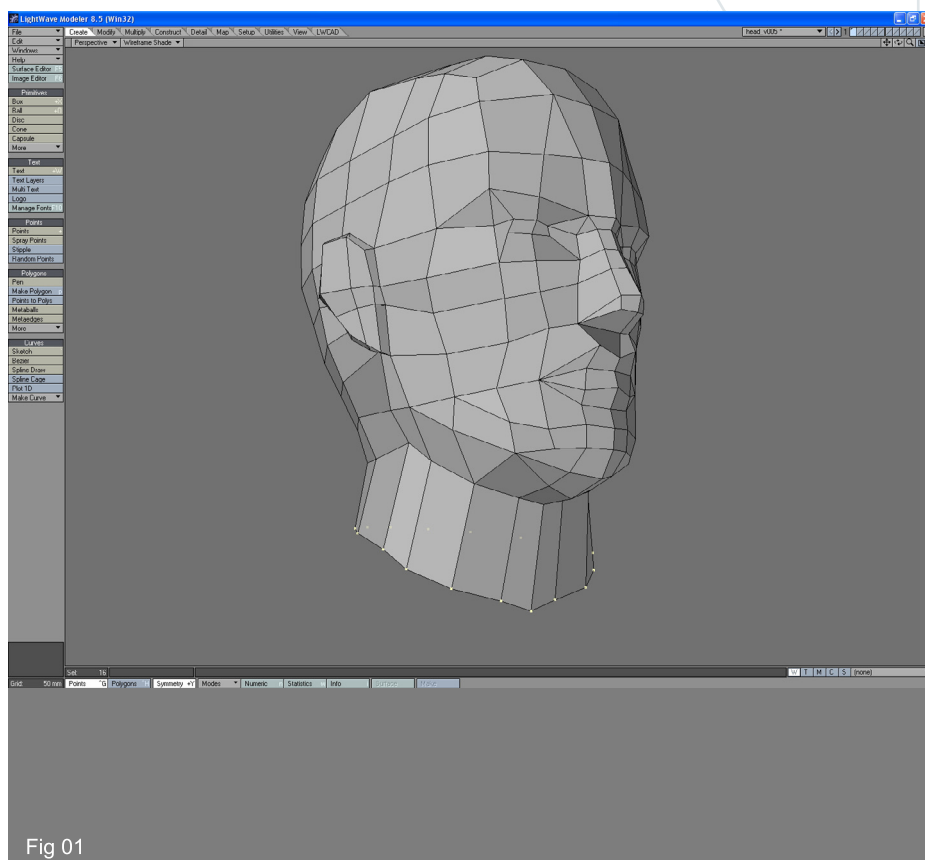

Fig 01
1. Start by, selecting the lowest points of the head model and use the Extender plus tool (just hit 'e') to extend once. Use the Move tool ('t') to move the new points downward along the Y axis. Holding Ctrl key while you move, will lock the movement to one axis, so the points wont move on X or Z axis. Using the Drag tool (Ctrl+t) and Symmetry mode on (Shift+y), adjust the points so they are forming more of a natural neck shape. If you have polygons at the bottom of the head, feel free to select and delete them as they won't be needed in the modelling process (Fig01).